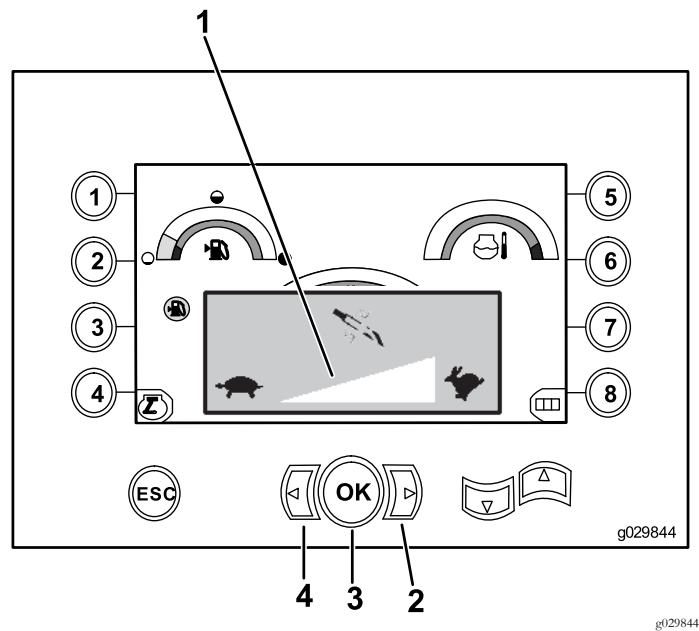

Figure 5
2. Press the Left arrow to decrease the maximum speed, or press the Right arrow to increase the maximum speed (Figure 5).
3. Release the OK button to set the drill-rotation speed (Figure 5).